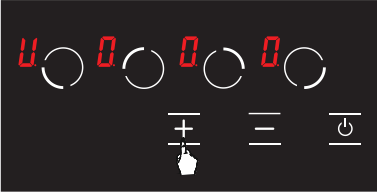

Figure 10
3. Then, press the **+** key once. The **U** icon shall be displayed in the relevant hob with this touch. (see Fig. 10) Thus, the keep warm shall be activated.